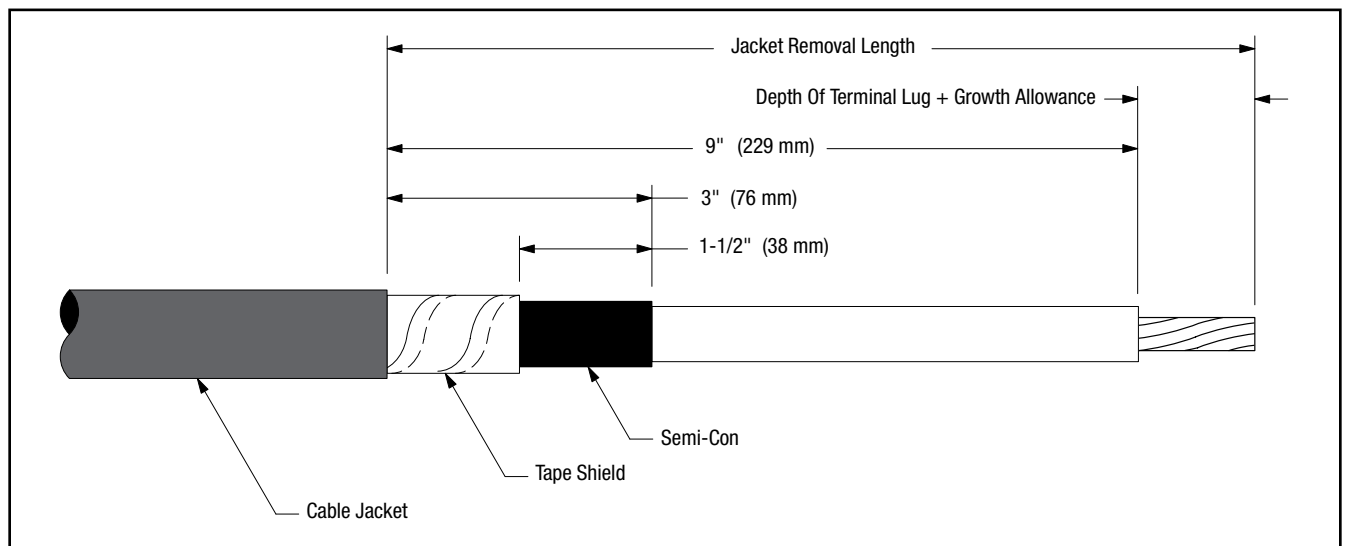

Figure 1
- 2.2 Prepare cable using dimensions shown in Figure 1. **BE SURE TO ALLOW FOR DEPTH OF TERMINAL LUG.** If necessary to prevent tape shield from unrolling, hold down edge with a single wrap of 3M™ EMI Copper Foil Shielding Tape 1181.